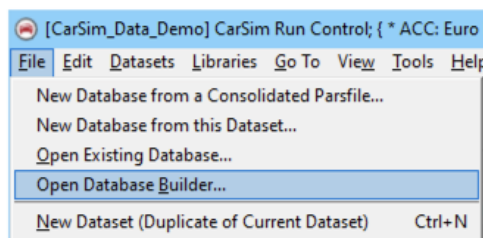

Figure 2. Open Database Builder command from the VS Browser File menu.
To build a new database with the Windows DS examples, click the button **Open Database Builder** ②. Alternatively, the Database Builder may be accessed from the CarSim / TruckSim **File** menu (Figure 2).